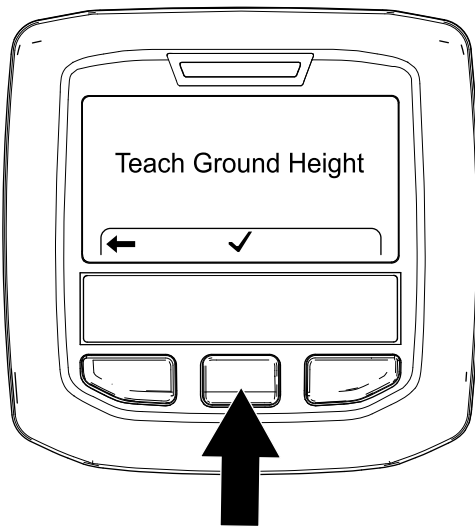

Figure 66
4. On the Teach Ground Height screen (Figure 66), press the center InfoCenter button.